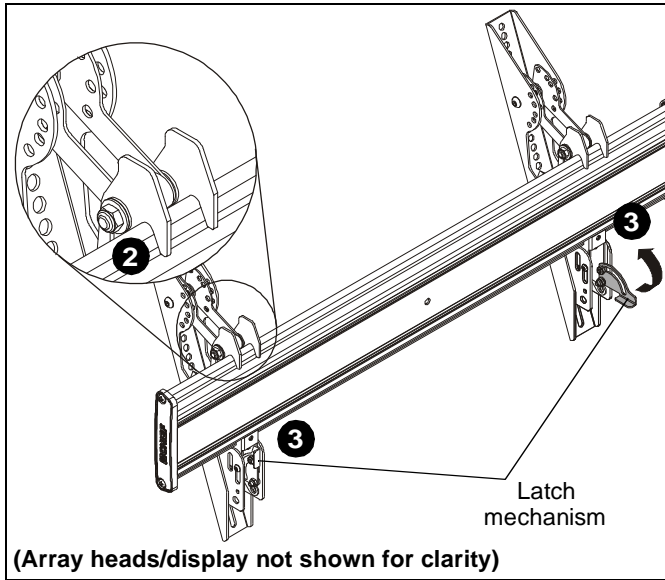

Figure 11
2. While supporting both sides of display, lower display onto center of ceiling mount, hooking top of interface brackets onto front of ceiling mount. (See Figure 11)
3. Raise the latch mechanism on both interface brackets to lock bracket in place. (See Figure 11)